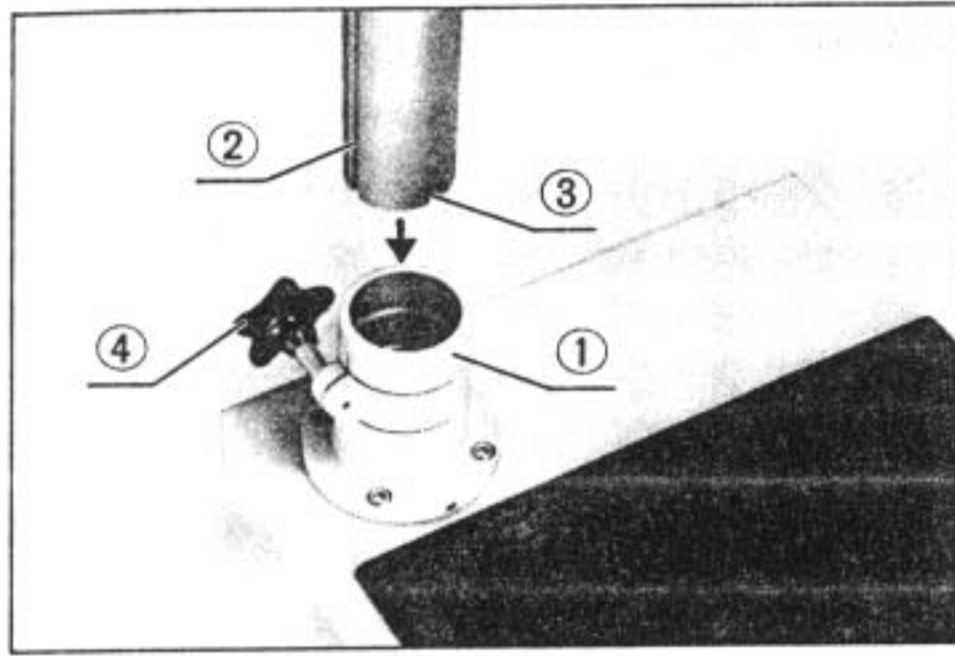

Fig. 1
Insert the pillar ② into the pillar sleeve ① on the base, aligning the notch ③ at the lower end of the pillar to the guide pin at the bottom of the sleeve so that the keyway comes to the operator's left hand side. Tighten the pillar clamping knob ④. (Fig. 1)